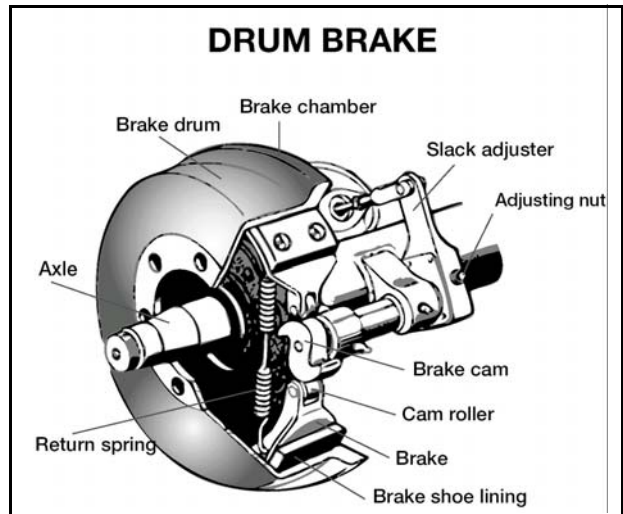

Figure 5.2
**S-cam Brakes.** When you push the brake pedal, air is let into each brake chamber. Air pressure pushes the rod out, moving the slack adjuster, thus twisting the brake camshaft. This turns the s-cam (so called because it is shaped like the letter "s"). The s-cam forces the brake shoes away from one another and presses them against the inside of the brake drum. When you release the brake pedal, the s-cam rotates back and a spring pulls the brake shoes away from the drum, letting the wheels roll freely again. See Figure 5.2.